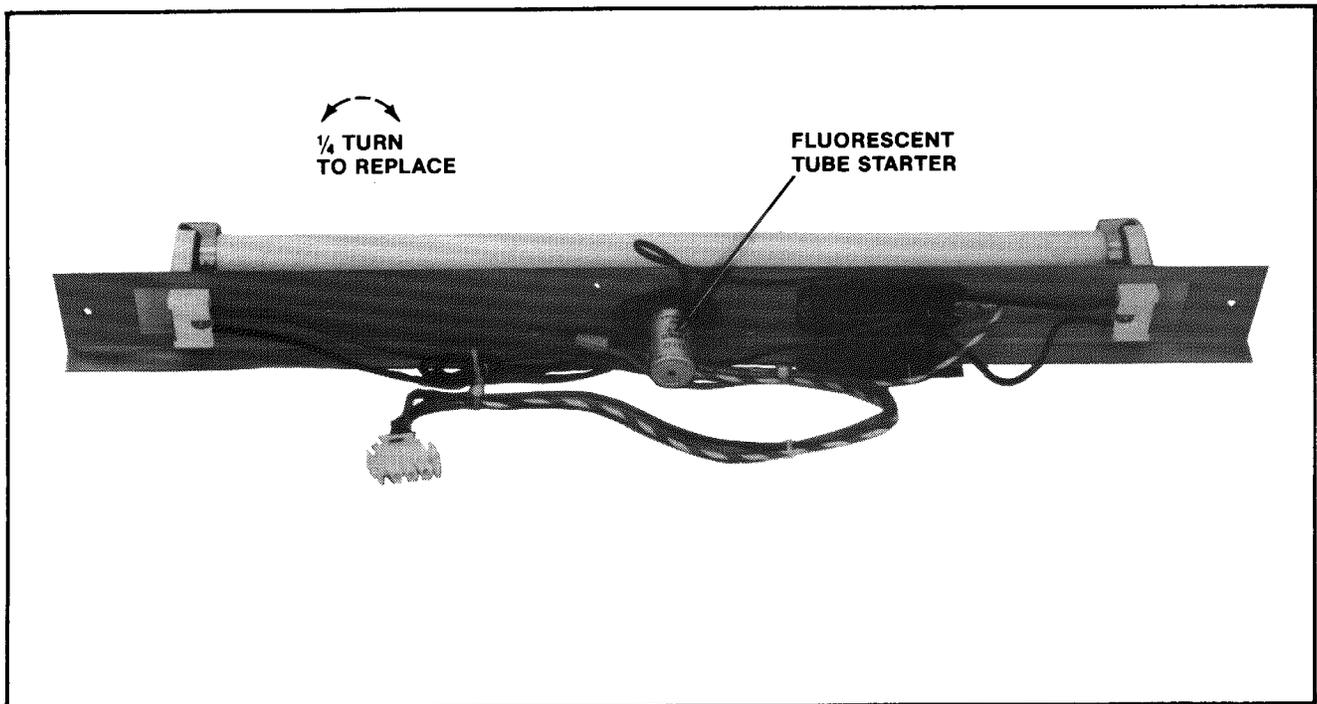

Figure 4-17 Replacing the Fluorescent Tube Starter — Upright
**WARNING: If you drop a fluorescent tube and it breaks, IT WILL IMplode! Shattered glass can fly six (6) feet or more from the implosion. Use care when replacing any fluorescent tube.**
- Replacing the fluorescent tube starter. See Figure 4-17.